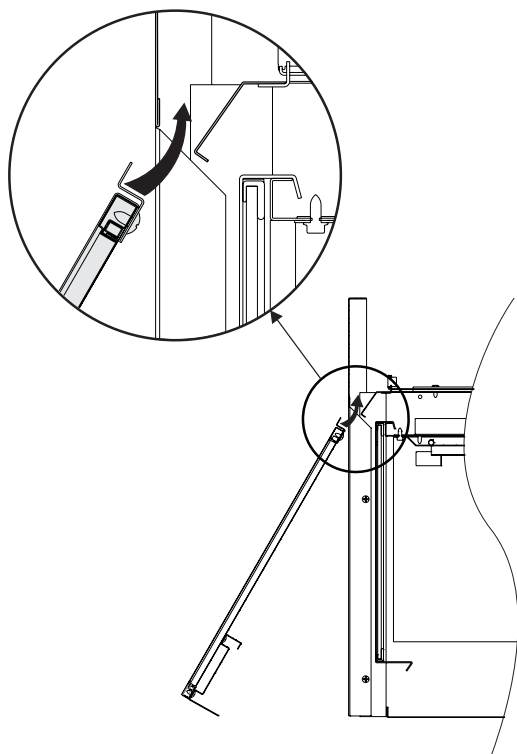

Figure 22
2. Raise the barrier just enough to allow the bottom of the barrier to swing inward to a vertical position. See Figure 22.